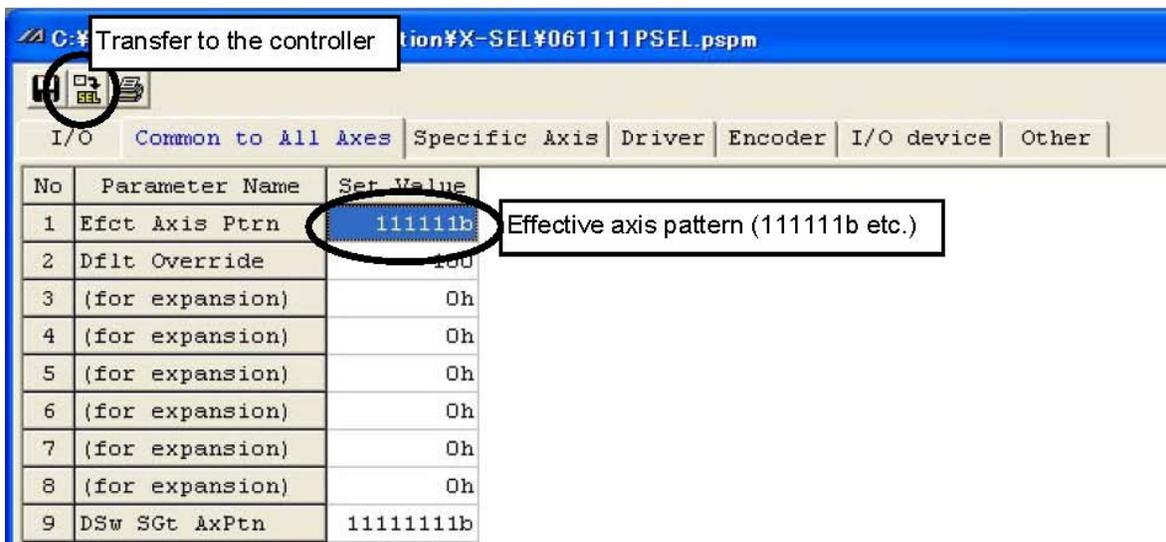
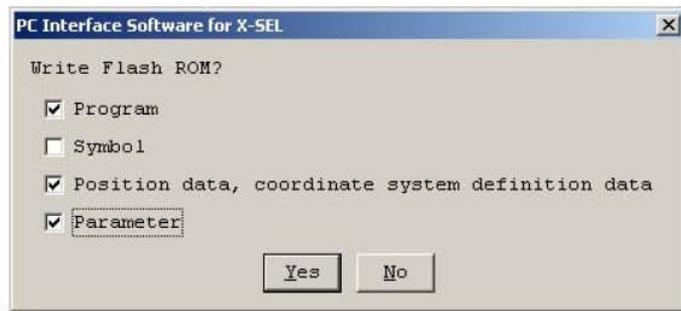

Fig. 18.1 Parameter editing screen (controller)
Fig. 18.3 Transfer Confirmation Dialog
From the menu, select Parameter (P) → Edit (E) to display the parameter edit screen. Match the All Axes common parameter No. 01 (effective axis pattern) on the controller to the effective axis pattern in the recovery parameter file data (111111b etc.) (Fig. 18.1).
Clicking the transfer to the controller button (Fig. 18.1) after changing the parameters will display the transfer confirmation dialog (Fig. 18.3). Click Yes to transfer the changed parameters to the controller.